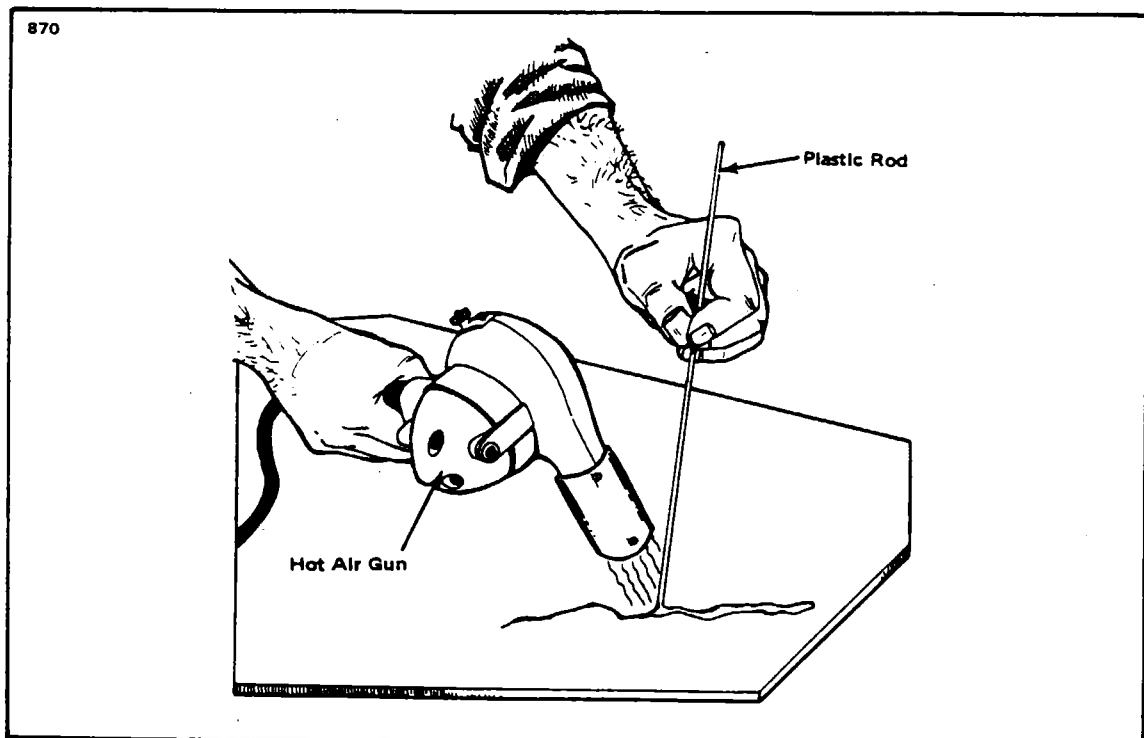

Figure 4-9. Welding Repair Method.
10. This welding method requires a hot air gun and ABS rods. to weld, the gun should be held to direct the flow of hot air into the fusion (repair) zone, heating the damaged area and rod simultaneously. The gun should be moved continuously in a fanning motion to prevent discoloration of the material. Pressure must be maintained on the rod to insure good adhesion. (Refer to Figure 4-9.)